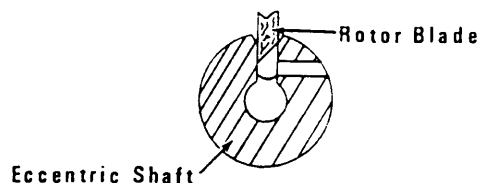

Fig. 1
When assembling Vibrator, apply a few drops of a good grade adhesive such as American Sealant Co's. Loctite Retaining Compound or equivalent to the end plates (58, 65), press upper end plate with key (231) on eccentric shaft. Apply a few drops of Loctite "A" or an equivalent adhesive to locknuts (56) and screw locknut against upper end plate (58) snug plus 1/8 turn. Making sure no sealant can get on blades (62), assemble them in shaft with slanted face toward exhaust porting as shown in Fig. 1.